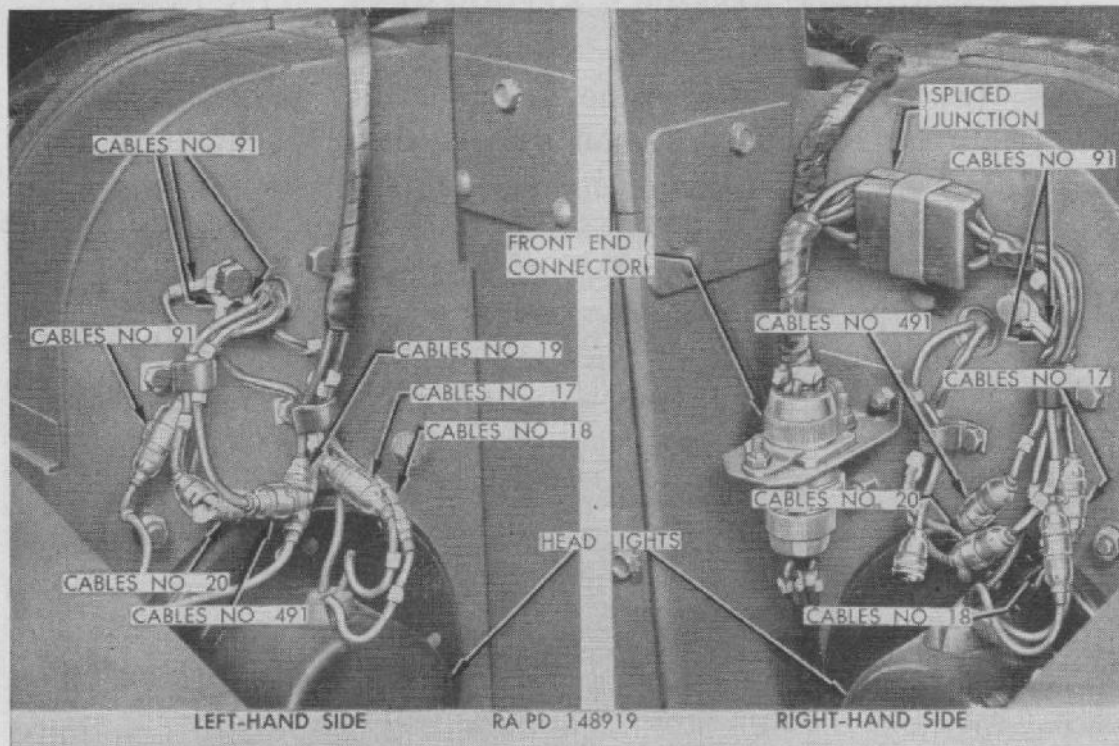
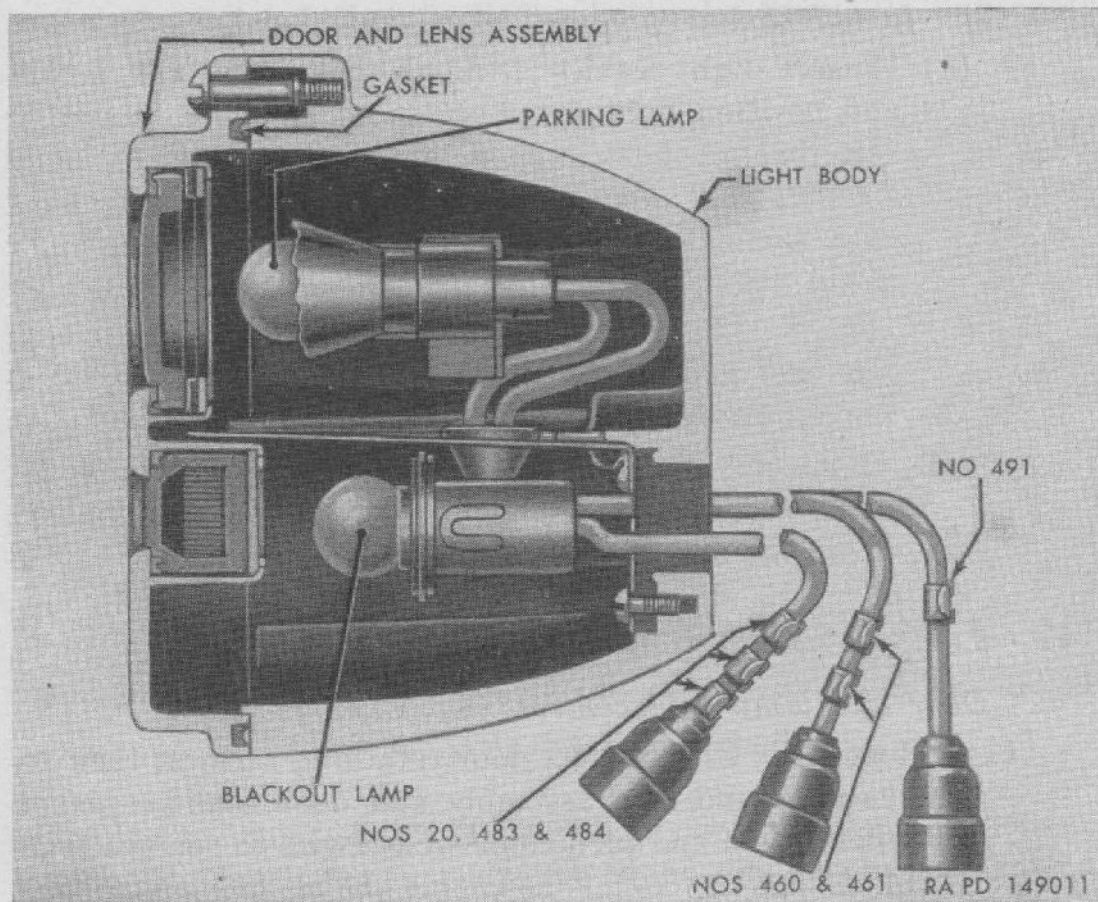

Figure 85. Head light and marker light wiring connections.
Figure 88. Sectional view of front marker light.
(1) Removal.
- (a) Disconnect two head light cables (Nos. 17 and 18) at bayonet type connectors (fig. 85). Remove front
- (d) Attach head light ground cable (No. 91) under head of front marker light mounting cap screw, using toothed lock washer under cap screw head (fig. 85). Connect the other two headlight cables (Nos. 17 and 18) to harness cables having same numbers. Secure cables in clip on radiator side baffle.
- (1) *Removal.*
- (a) Disconnect light cables from harness cables at rear of left-hand radiator side baffle (cable Nos. 91 and 19, fig. 85). Remove grommet from fender skirt,
- (c) Connect light cables to harness cables at rear of radiator side baffle (fig. 85), making sure numbers on cables are matched.
a. *Door and lamp replacement* (fig. 88).
- (1) *Removal.* Unscrew six door retaining screws; then remove door and lens assembly and door sealing gasket. Press lamp in and turn counterclockwise to remove from socket.
- (2) *Installation.* Press new lamp into socket and turn clockwise to lock in place. Examine door sealing gasket. If not in good condition, place new gasket in groove in door. Install door and lens assembly and attach with six screws.
- (a) Disengage marker light cables from clip on back of radiator side baffle; then disconnect cables from harness at bayonet connectors (fig. 85).
- (b) Connect cable having three tags (Nos. 20, 483, and 484) (fig. 88) to harness cable No. 20 (fig. 85). Connect cable having one tag (No. 491) to harness cable No. 491. Other cable (Nos. 460 and 461) is not used. Secure cables in clip on back of radiator side baffle.